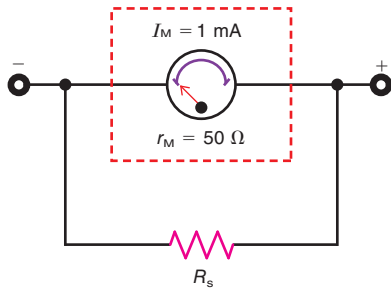

Figure 12-20
- 12.1 Calculate the value of the shunt resistance, R_S , needed to extend the range of the meter movement in Fig. 12-20 to (a) 10 mA; (b) 25 mA.